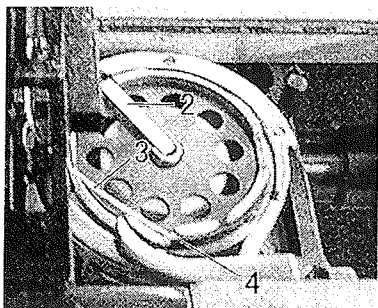

Fig.12
8. REMOVING AND INSERTING THE BOBBIN (Figs. 12 & 13)